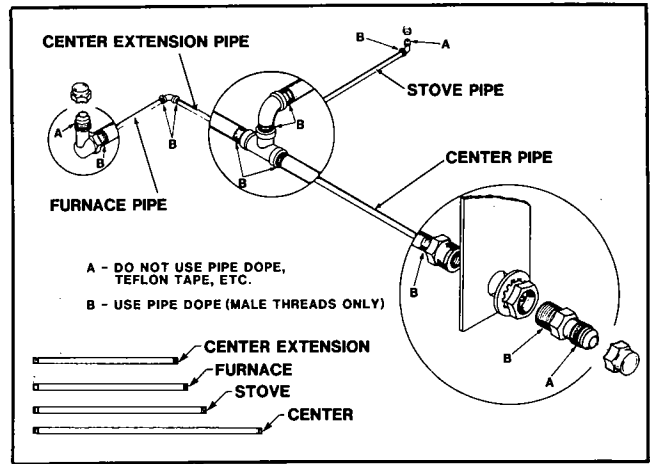

Figure 2. LP Gas Pipe Assembly
2. Apply pipe dope (supplied in the kit) to MALE THREADS ONLY and assemble pipes and fittings as shown in figure 2. Protect the flare connections with caps (or old flare fitting nuts and tape) during assembly and installation.
7. Replace $\frac{5}{8}$ -inch bolt and nut at tongue/frame connection (figure 2) with the $\frac{5}{8}$ -inch bolt/washer/nut supplied in kit. Torque to 100 ft-lb.
17. Hold pipe system and brackets in position against bottom of trailer keeping center pipe 3- $\frac{3}{4}$ inches from tongue (figure 2). Mark for drilling directly above both plugged flare fittings.